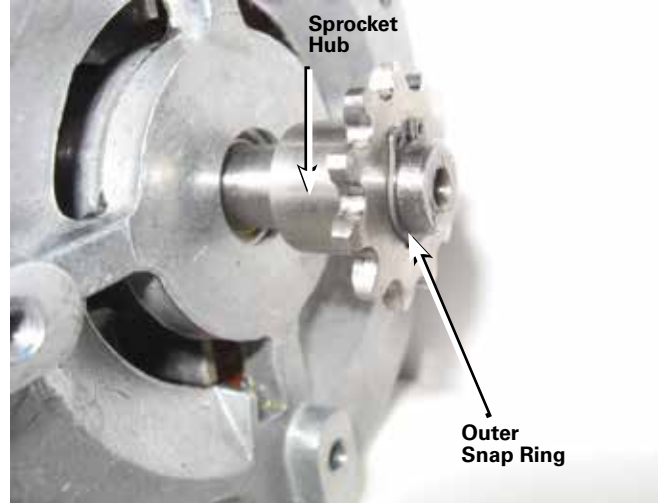

Figure 12. Placement of the sprocket.
- Align the sprocket keyway with the woodruff key on the motor shaft. Slide the sprocket onto the motor shaft with the sprocket hub end towards the motor. Install the second snap ring into the outer snap ring groove using a snap ring pliers. Refer to Figure 12.